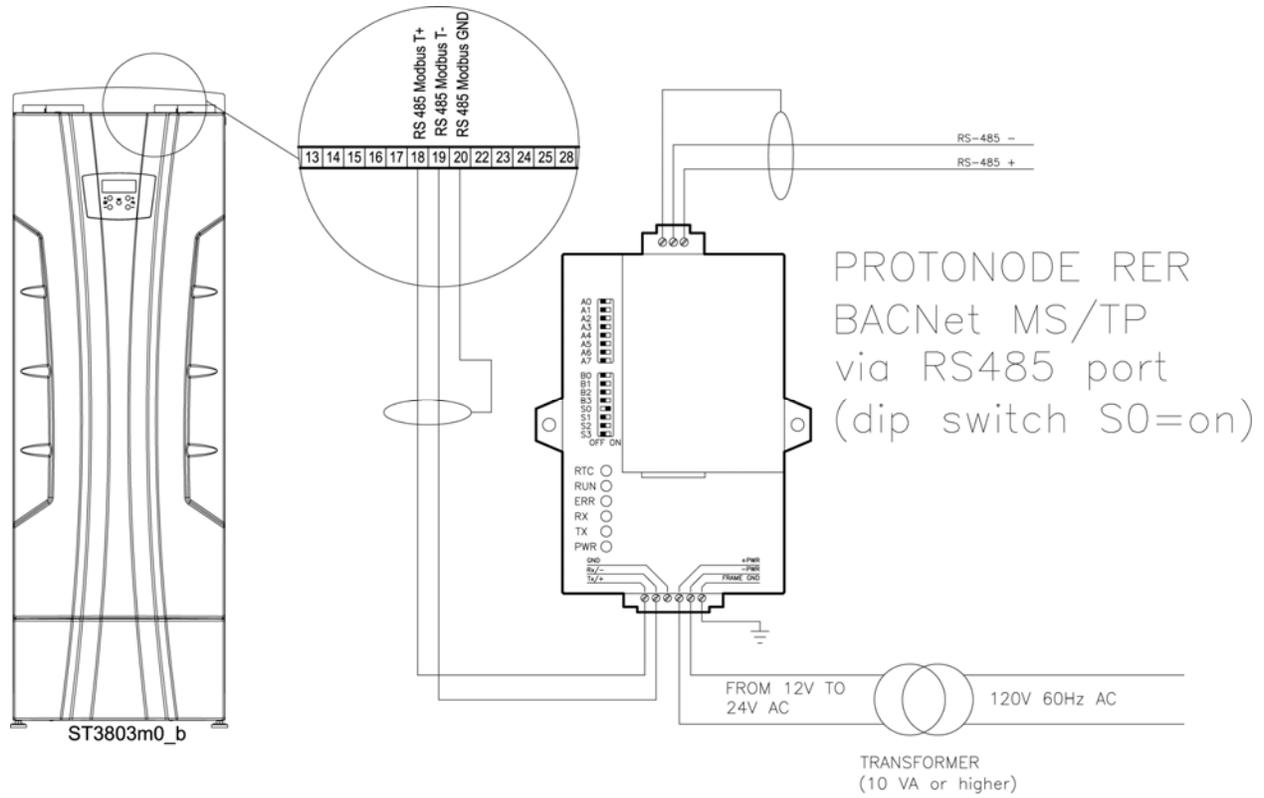

Figure 20: Connection wiring ProtoNode RER for BACnet MS/TP
- Open a PC web browser and enter the default IP address 192.168.1.24 of the ProtoNode. The browser's display of the main landing page for the ProtoNode (Figure 20) confirms the ProtoNode is communicating